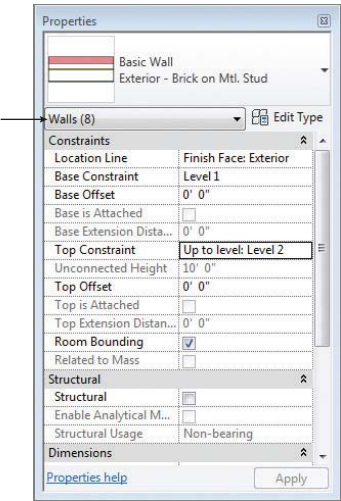

FIGURE 1.18 The number of selected items can be seen in the Properties palette.
- 5. Hover the mouse pointer over one of the walls. Press the Tab key once. The status bar should indicate “Chain of walls or lines.” Click to select the chain of walls. You should see an indication in the Properties palette that eight walls have been selected, as shown in Figure 1.18.